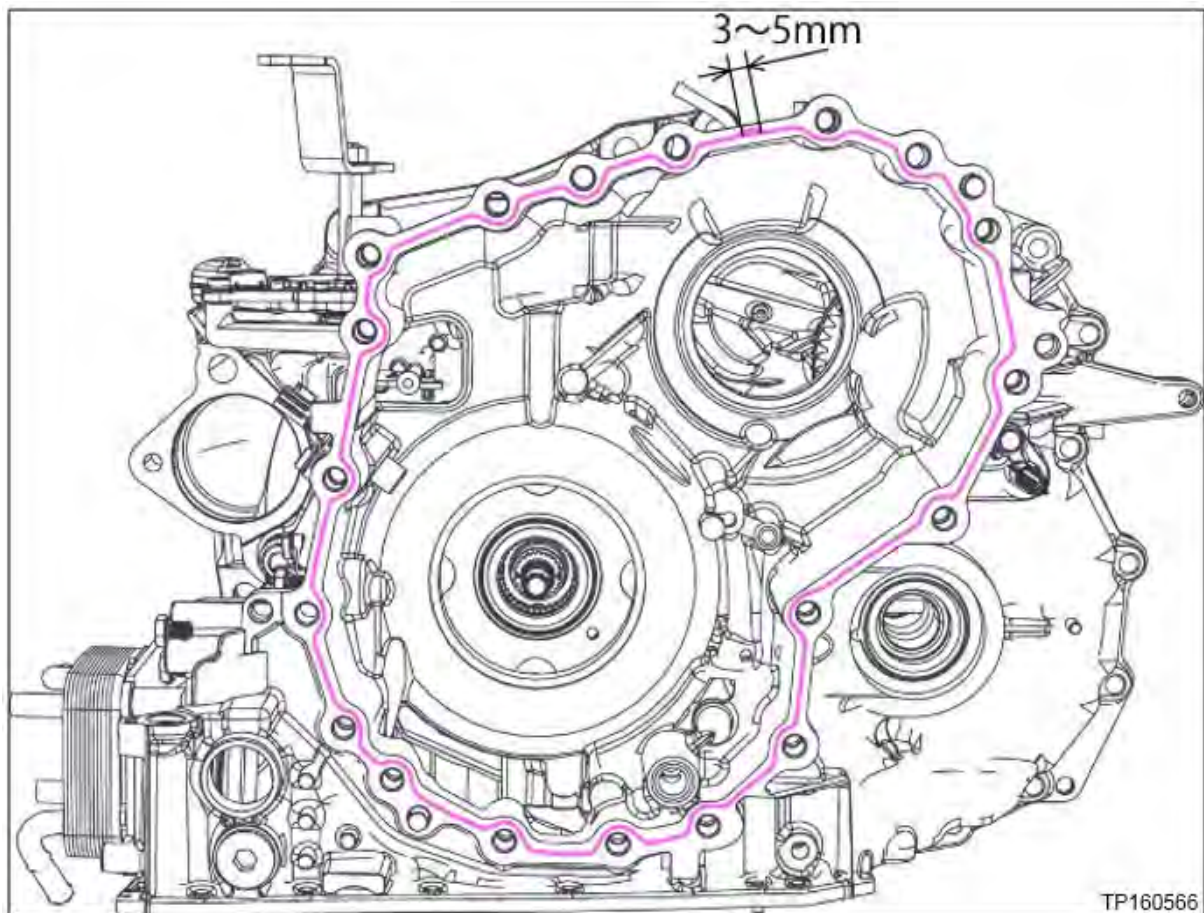

Figure 88
69. Apply one continuous 2.0 mm diameter bead of sealant along the center of the CVT case side mating surface (Figure 88).